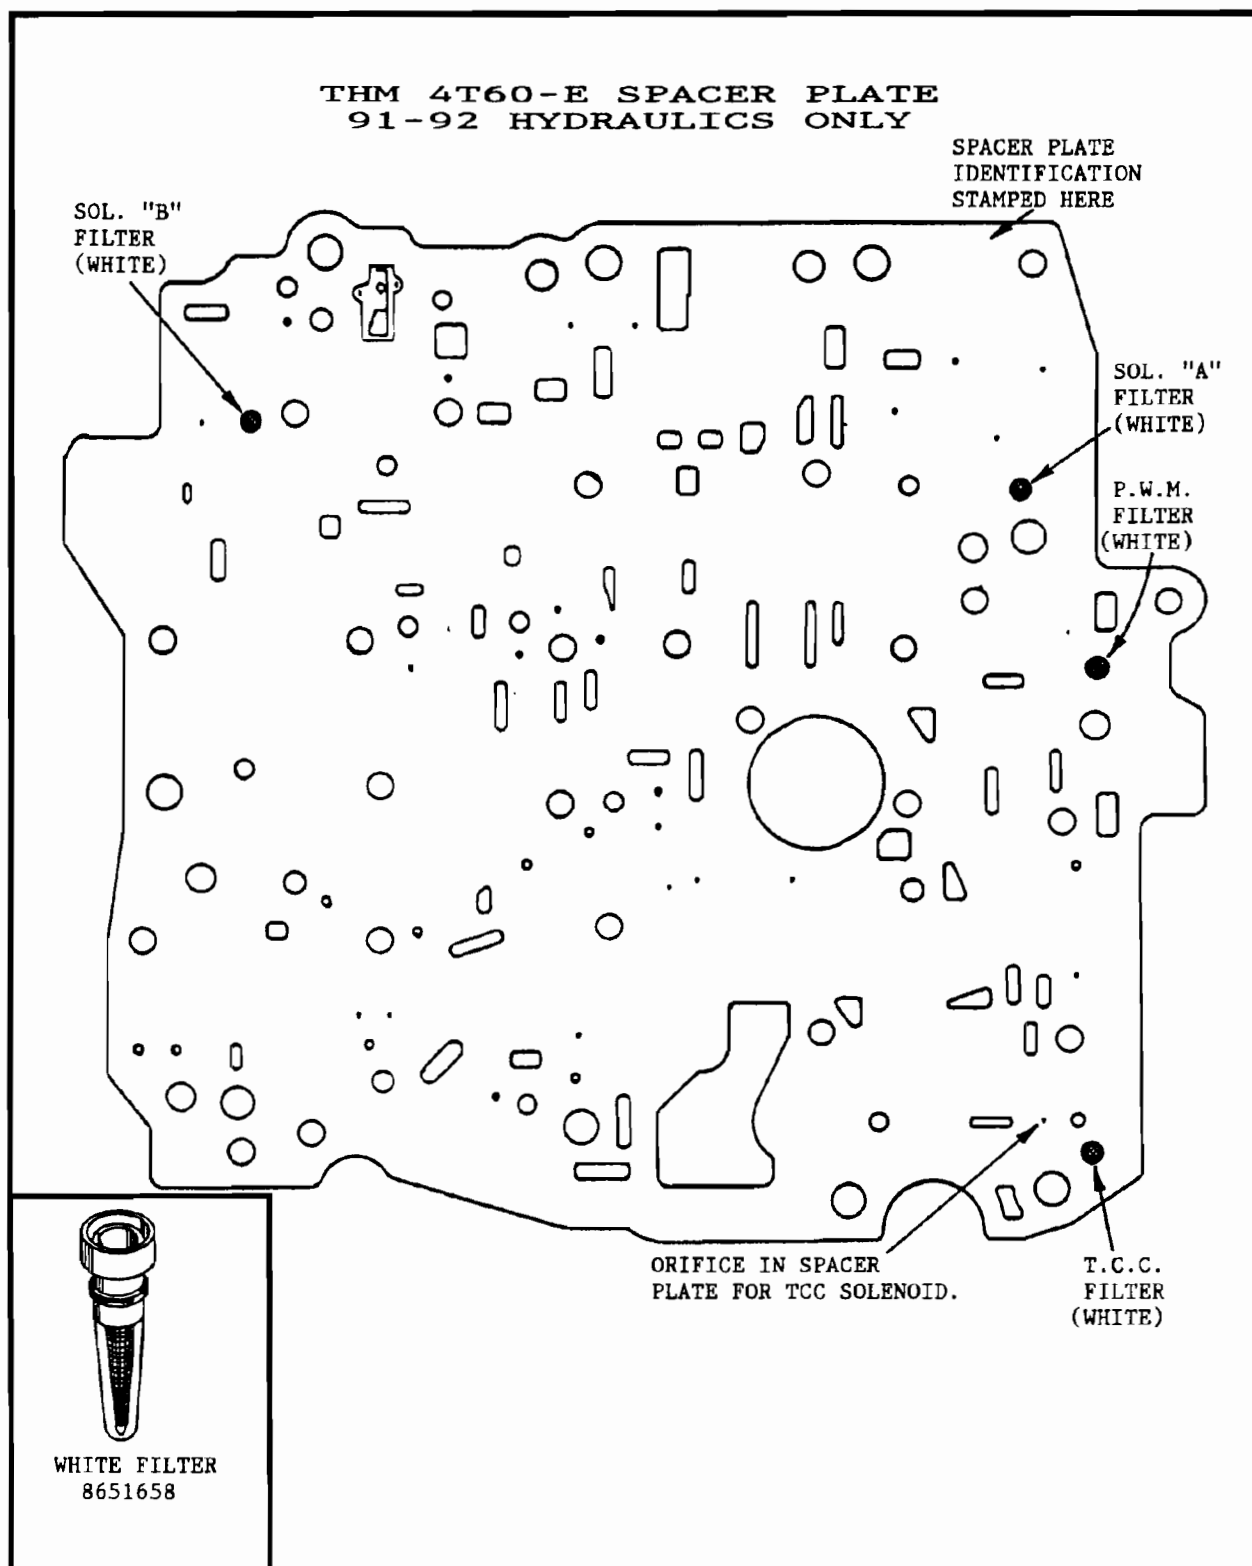

Figure 39
- (2) **VALVE BODY SPACER PLATE** - Different hole spacing to accommodate the valve body and channel plate casting changes. Also the 91-92 hydraulics spacer plate has the TCC solenoid orifice in the spacer plate, and the 1993 hydraulics requires the screen and orifice assembly, with the "O" ring, that we seen in the THM 440-T4 transaxle (See Figures 39 and 40).